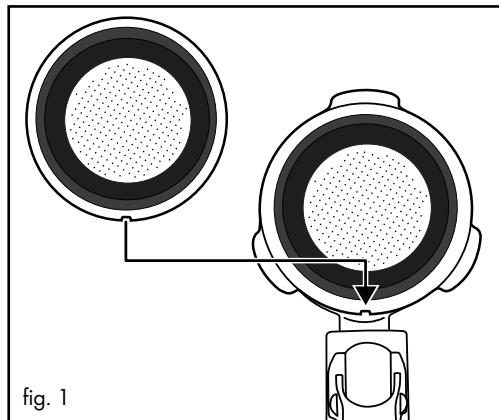

fig. 1
- Make sure that the small indentation on the large 19 or small espresso sieve 20 is located above the indentation on the sieve holder 18 when inserted (fig. 1).